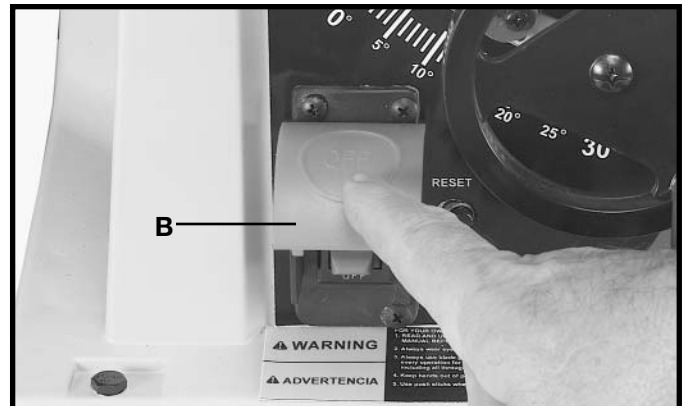

Fig. 42
2. To turn the saw **"OFF"**, push down on switch shield (A) Fig. 42.